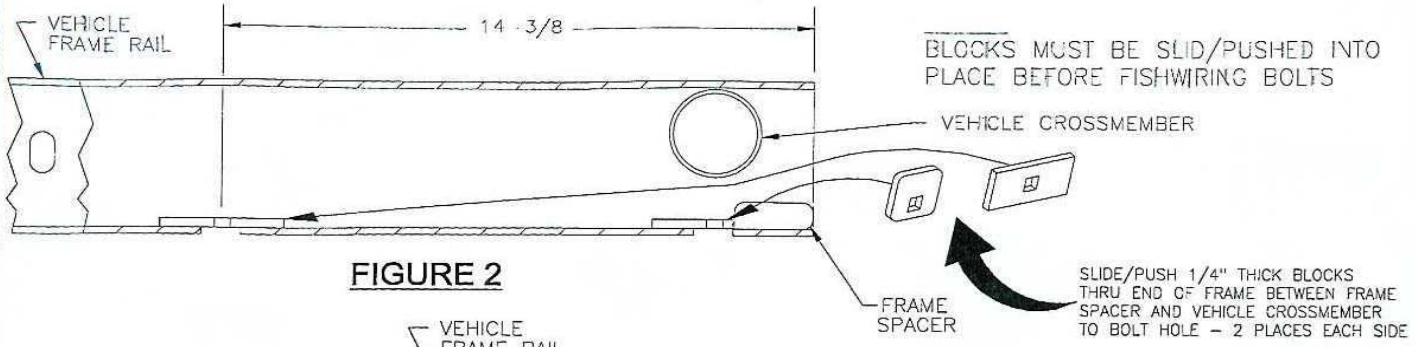

FIGURE 2
7. On trucks built after 11/02/02 do the same on the rear most hole in frame. See figures 2 & 3.